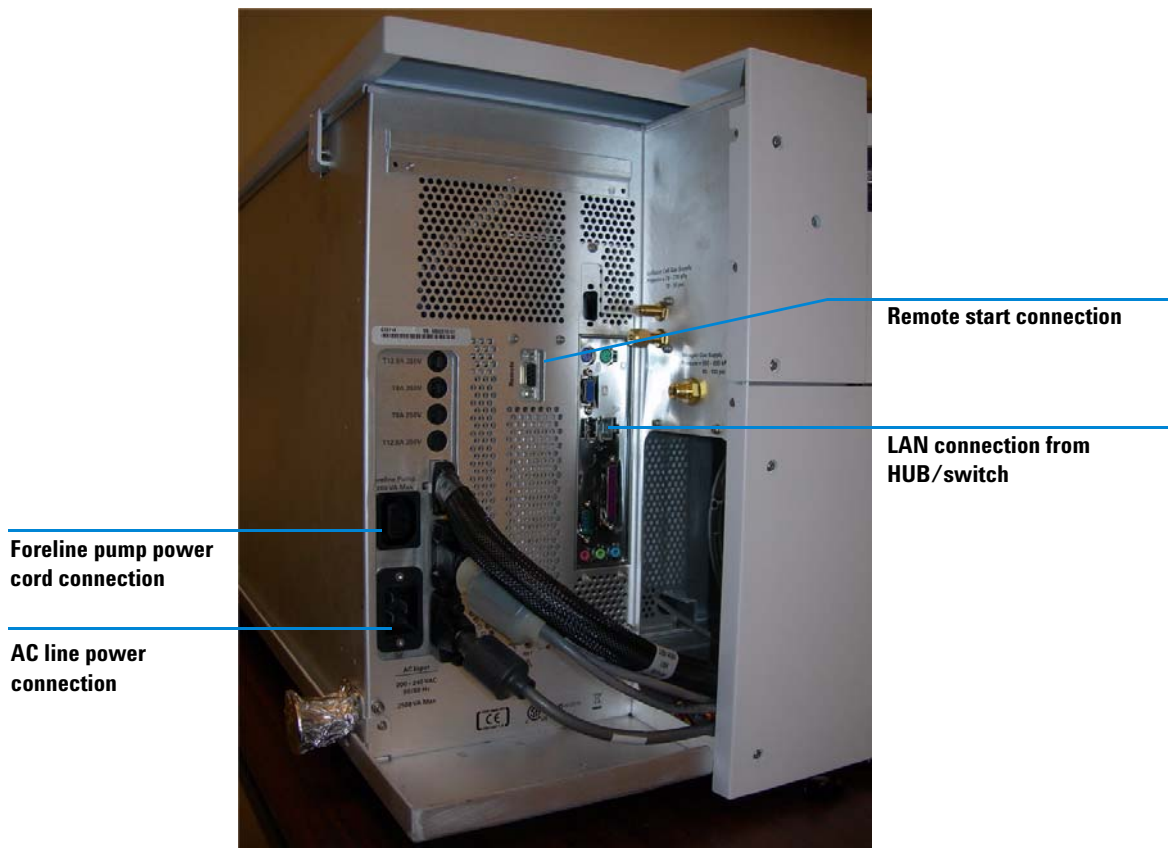

Figure 13 Power and electrical connection at back left side of Triple Quad
- 11** Connect the remote start cable to its connector on the back left side of the Triple Quad. See Figure 13.
- 12** Connect the foreline pump power cord into the foreline pump connector on the back left side of the Triple Quad (see Figure 13).
- 14** Plug the Triple Quad power cord into the Triple Quad power connector on the Triple Quad and the other end of the Triple Quad power cord into the wall outlet. See Figure 13.